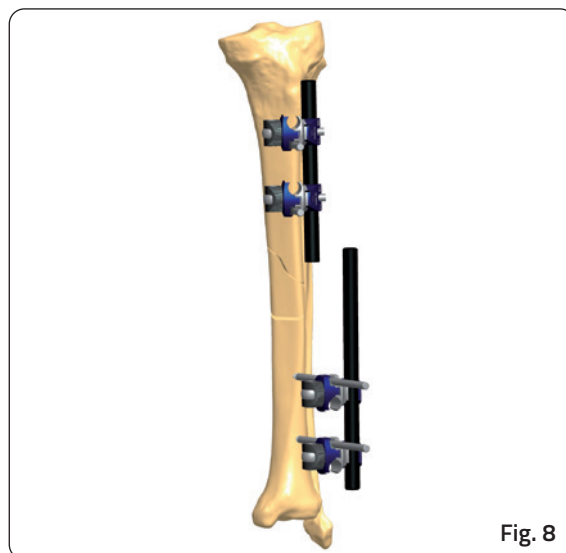

Fig. 8
8. The two screws in each bone segment are joined by rods of suitable length; each one mounted with two clamps positioned about 30mm from the skin. They are then locked manually by turning the knurled metal ring clockwise (Fig. 8).